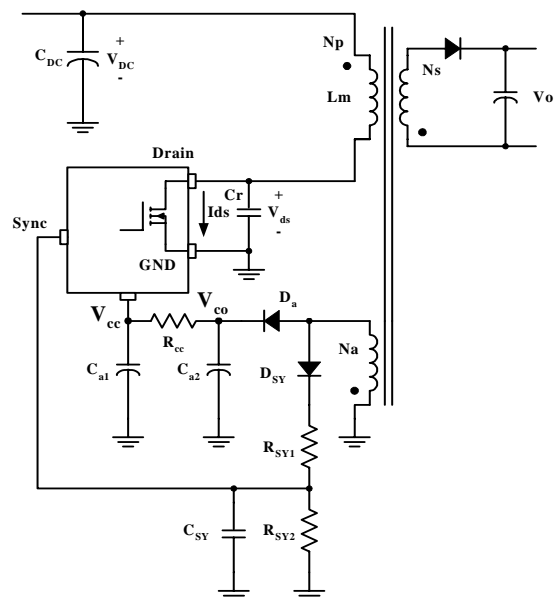
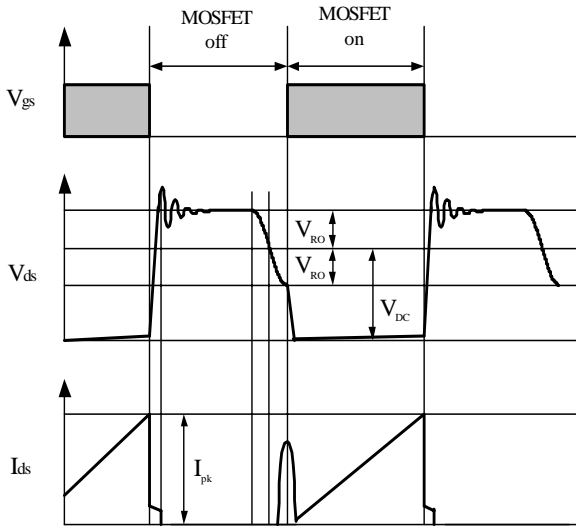
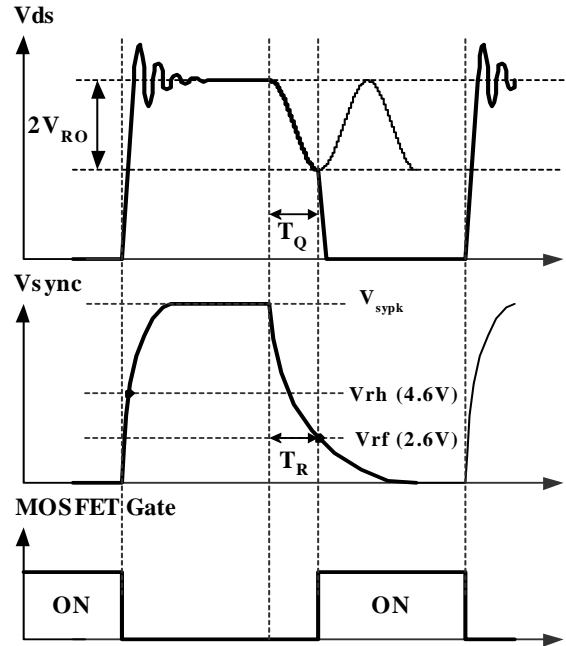

Figure 6. Synchronization circuit
Figure 7. Quasi-resonant operation waveforms
Figure 8. Normal quasi-resonant operation waveforms
2. Synchronization : FSCQ0765RT employs quasi-resonant switching technique to minimize the switching noise and loss. In this technique, a capacitor (C_r) is added between the MOSFET drain and source as shown in Figure 6. The basic waveforms of quasi-resonant converter are shown in Figure 7. The external capacitor lowers the rising slope of drain voltage to reduce the EMI caused when the MOSFET turns off. In order to minimize the MOSFET switching loss, the MOSFET should be turned on when the drain voltage reaches its minimum value as shown in Figure 7.
The minimum drain voltage is indirectly detected by monitoring the Vcc winding voltage as shown in Figure 6 and 8. The voltage divider R_{SY1} and R_{SY2} should be chosen so that the peak voltage of sync signal (V_{sypk}) is lower than the OVP voltage (12V) in order to avoid triggering OVP in normal operation. It is typical to set V_{sypk} to be lower than OVP voltage by 3-4 V. In order to detect the optimum time to turn on MOSFET, the sync capacitor (C_{SY}) should be determined so that T_R is the same with T_Q as shown in Figure 8. The T_R and T_Q are given as, respectively